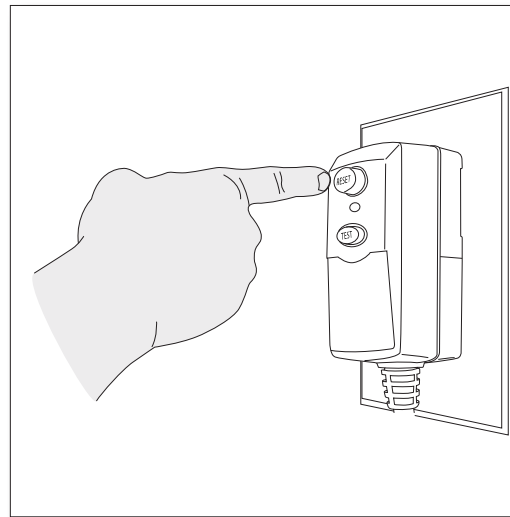

Fig. 19
- Unwind the power cord completely and plug the GFCI into a grounded 120 volt outlet. Press the ‘reset’ button on the GFCI box (**Fig. 19**). The indicator window should show a red color. This must be done each time the unit is plugged in.